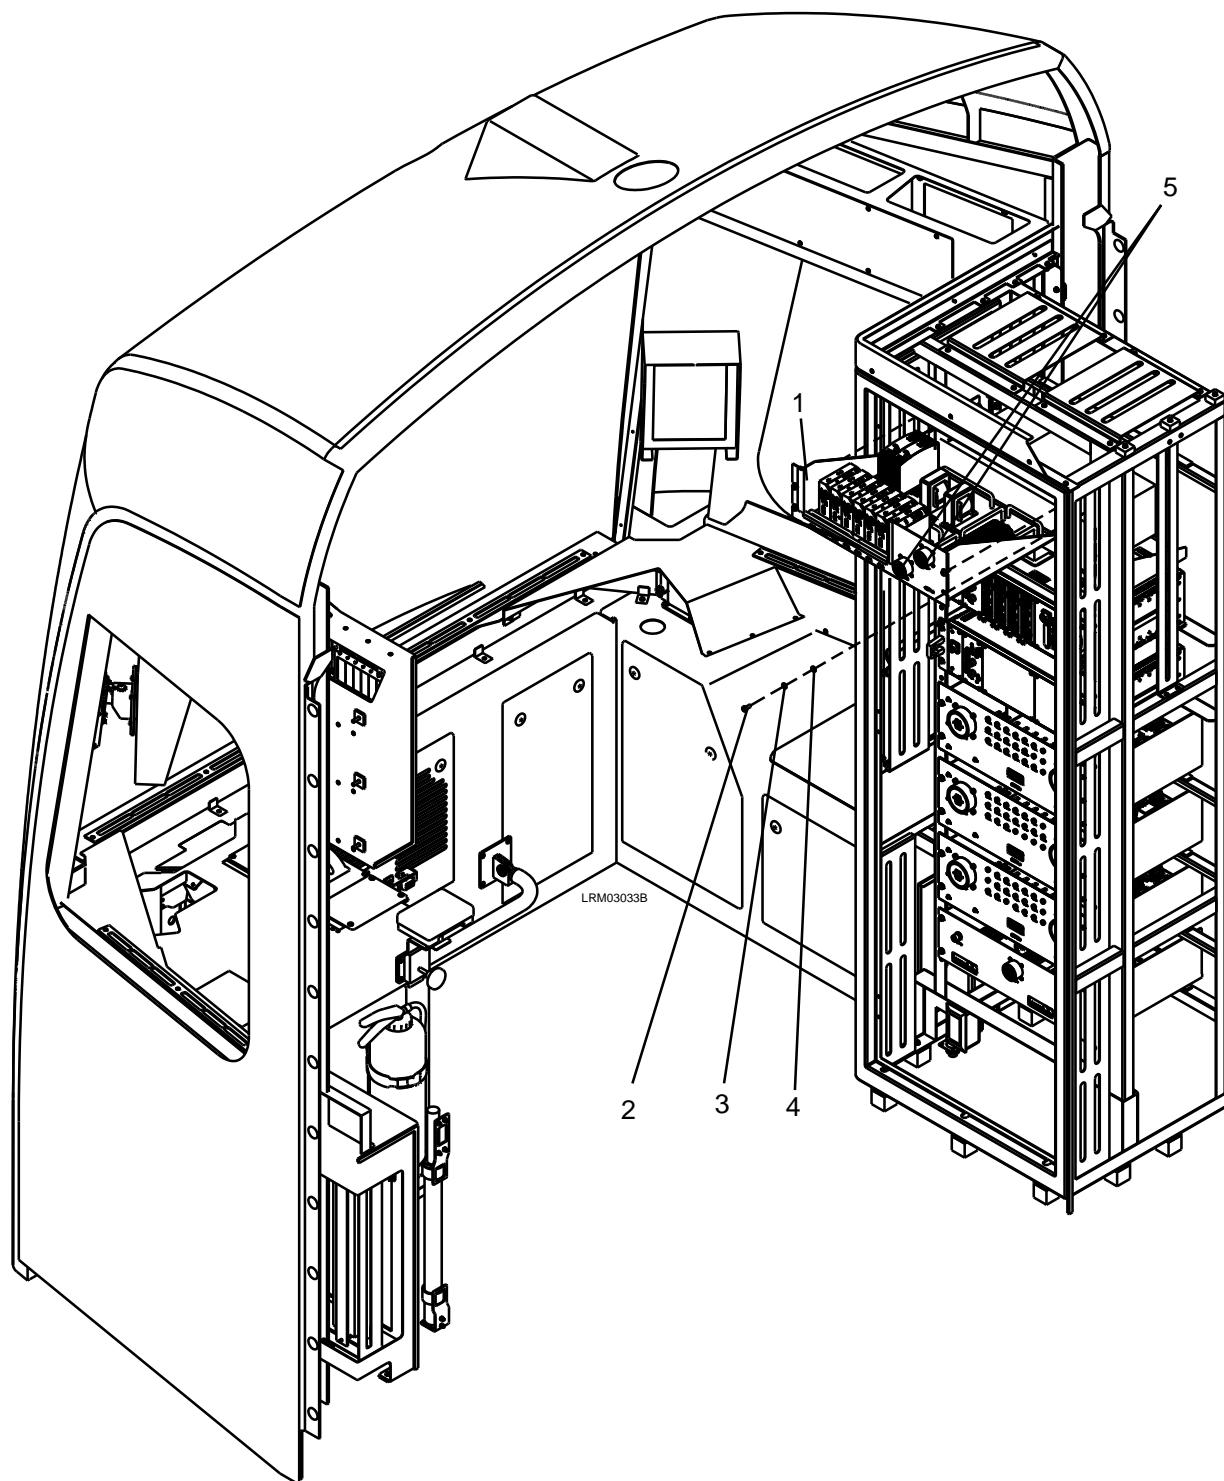

Figure 7-27: ACP1A Panel
2. Disconnect the electrical connectors (5) to the ACP1A Panel (1). See Figure 7-27.
3. Remove the four M6 x 16 screws (2), M6 lock washers (3), and M6 plain washers (4).
4. Carefully remove the ACP1A Panel (1).